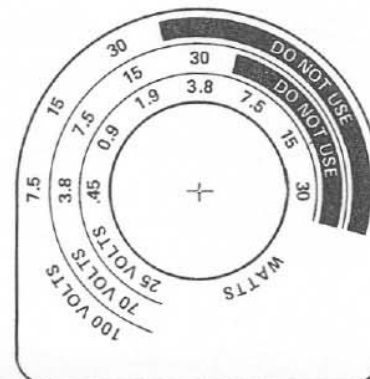

FIGURE 6 – Switch Label
**CAUTION.** DO NOT use a 70.7 volt source with the transformer switch set for 25 volts (30W, 15W, or 7.5W) taps. DO NOT use a 100 volt source with the switch set for 25 volts (30W, 15W, 7.5W or 3.75W) taps (see Figure 6). This can cause damage to the speakers, transformers, and may possibly damage the amplifier. Such connection will also void the warranty.